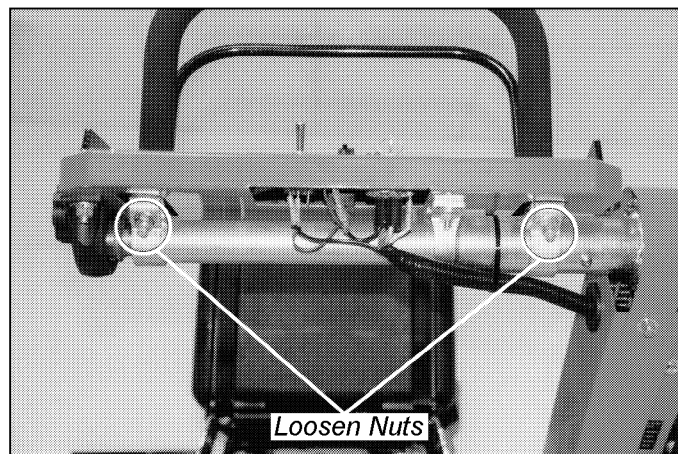

Figure 4
- Next, loosen the 9/16" nuts on the clamps at the lower end of the control handles (*Figure 4*). Line up the control handles so they are even with each other and the speed control bar. Once the control handles are lined up, tighten the nuts.